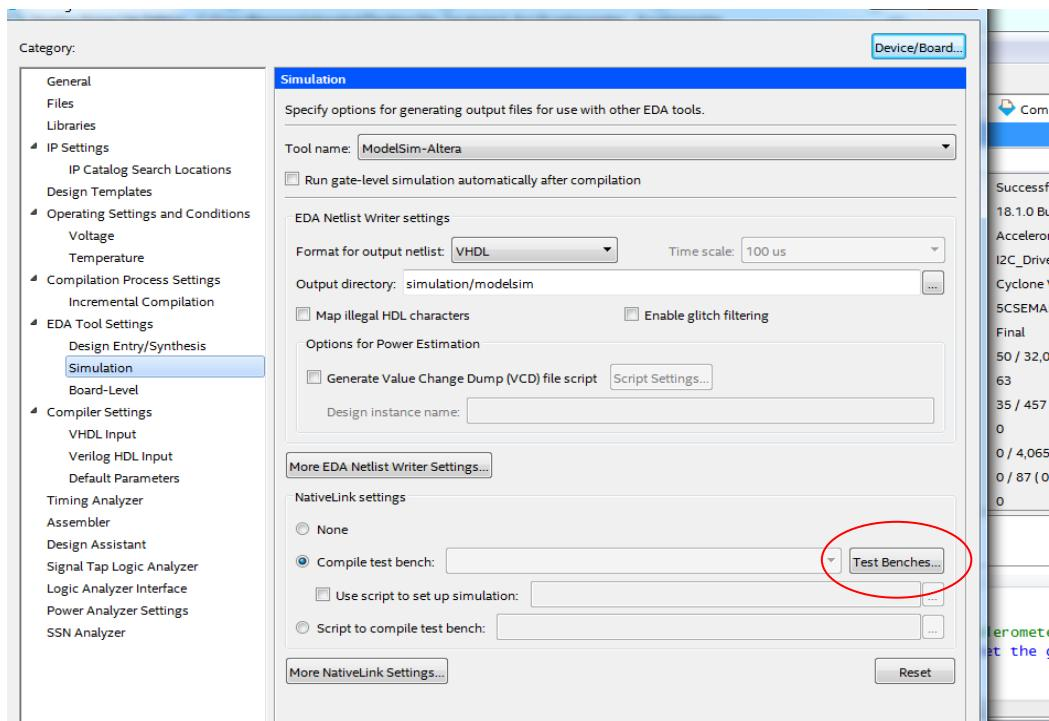

Figure 2.13: Setting test bench for simulation step 2
- → If it is not set, like it is the case in Figure 2.13 hereunder, follow the below steps to set it. Otherwise, if the compile test bench is I2C_Driver_TB, then go to the tab tools steps to simulate directly.